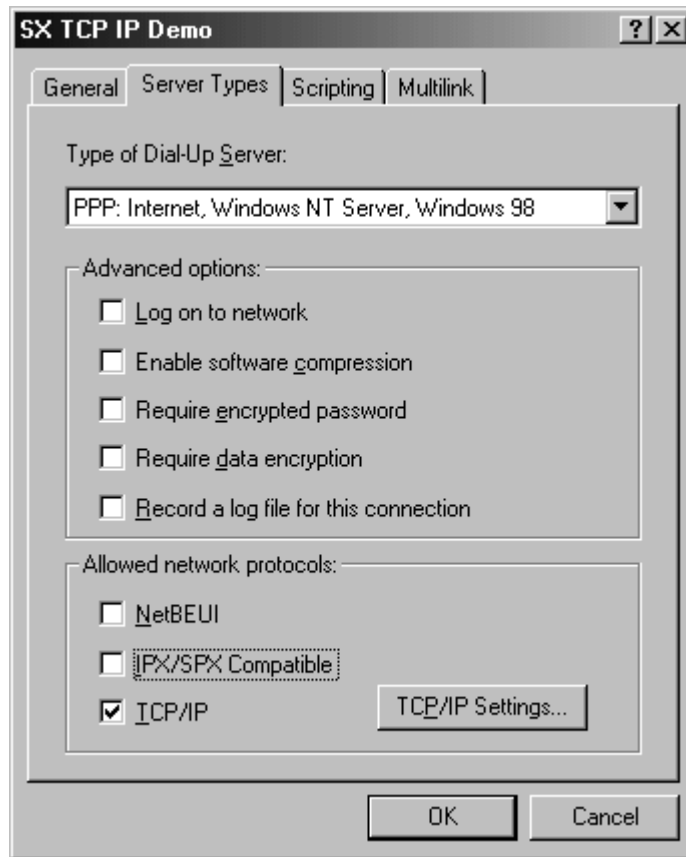

Figure 2-5. Dial-Up Networking Properties - Server Types
3. Under the Server Types tab, ensure that the type of dial-up server is set to “PPP: Internet, Windows NT Server, Windows 98” (or similar PPP setting under Windows 95). Ensure that all Advanced options are disabled. Under Allowed network protocols, select TCP/IP and ensure that all other network protocols are disabled. See Figure 2-5.